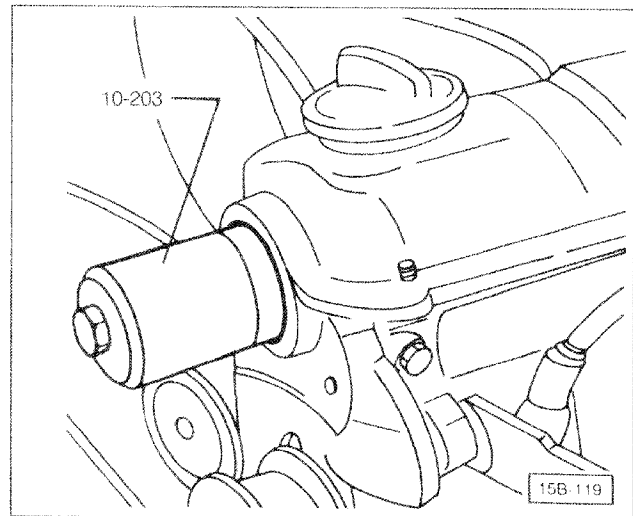

Fig. 4-7. Camshaft oil seal being installed.
9. Lightly oil the seal lip and camshaft's sealing surface. Fit the seal into position, and carefully drive it into place until it is flush with the front of the cylinder head. Use care not to distort the seal as it is installed. For best results, use a seal driver such as Volkswagen special tool no. 10-203, shown in Fig. 4-7.